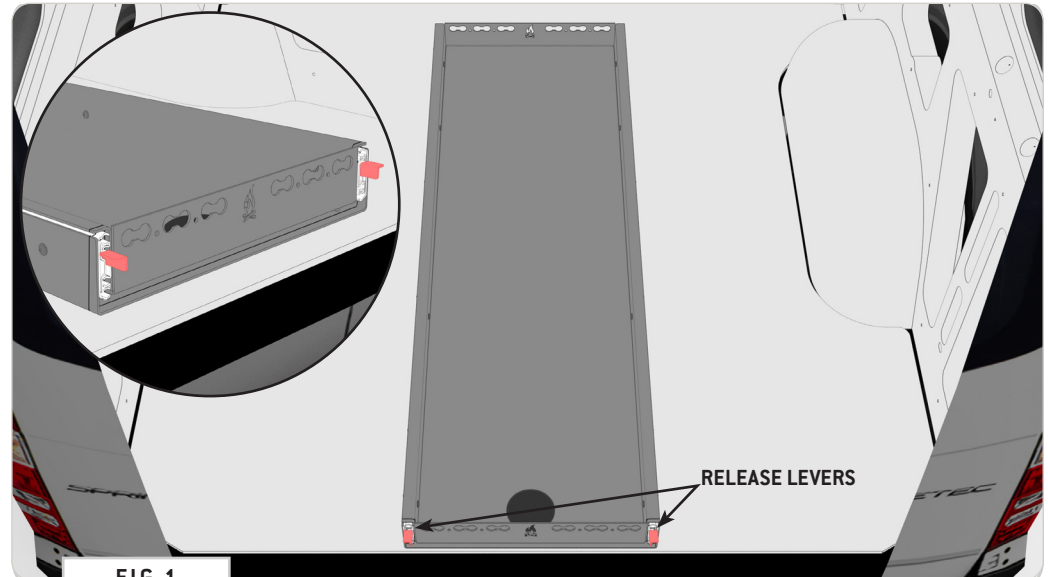
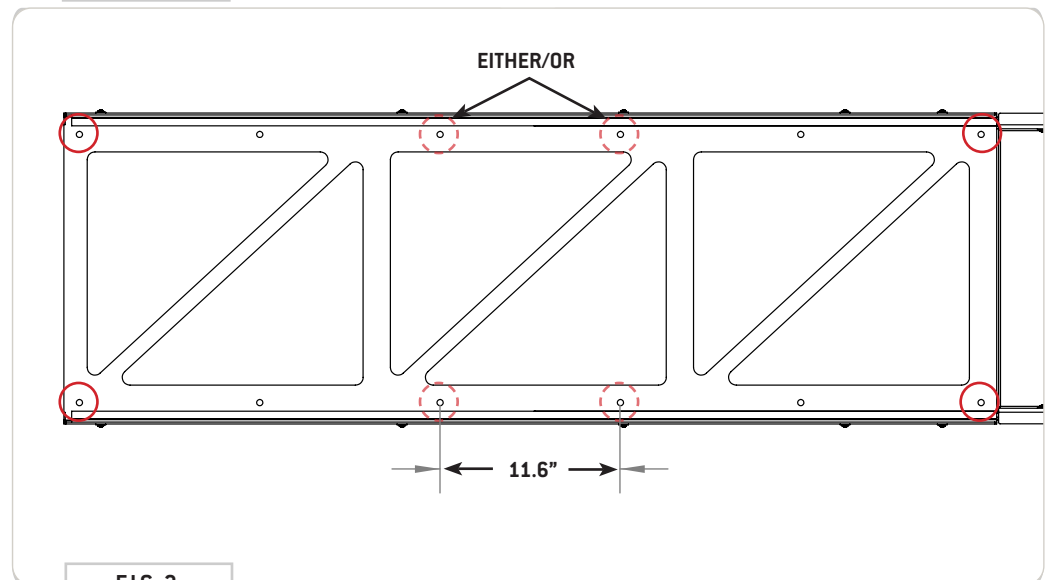

FIG 1
FIG 2
1.2 Accessing Mounting Holes: Release the **Drawer** by pressing down on the **Release Levers** (FIG 1) to expose the **Mounting Holes** (FIG 2).
1.3 Map Mounting Holes: Map out the installation location carefully to avoid drilling into wires, brake lines, or the fuel tank. Plan to use a minimum of six (6) fasteners, with the most secure method being fasteners in each corner and two in the center (shown red in FIG 2). Mark your locations with a marker and remove the tray for drilling.